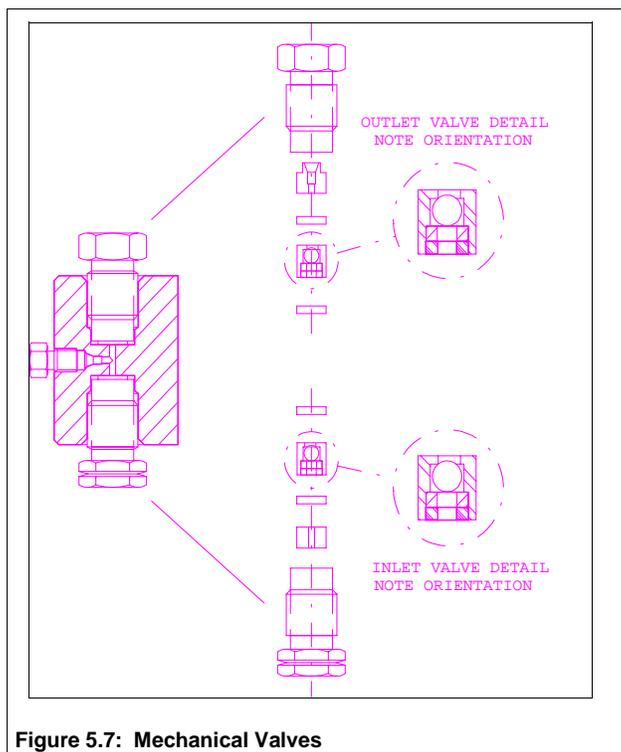

Figure 5.7: Mechanical Valves
The valves are the two hexagon-shaped components on the round head (see Figure 5.7). Inlet valves can be distinguished from outlet valves by the groove on the hexagonal part of the valve. Remove the valves with a 1/2" wrench, turning in a counter-clockwise direction.
3. Reassemble the valve by placing the valve insert in the valve housing using the larger (3/16") dowel pin provided. Make sure it is oriented correctly (see Figure 5.7). Press a new Kel-F seal into place. Slide the valve cartridge into the valve housing making certain it is oriented correctly. Press another new Kel-F seal into place. The Kel-F seal will extend approximately 0.020-0.030" from the valve housing.